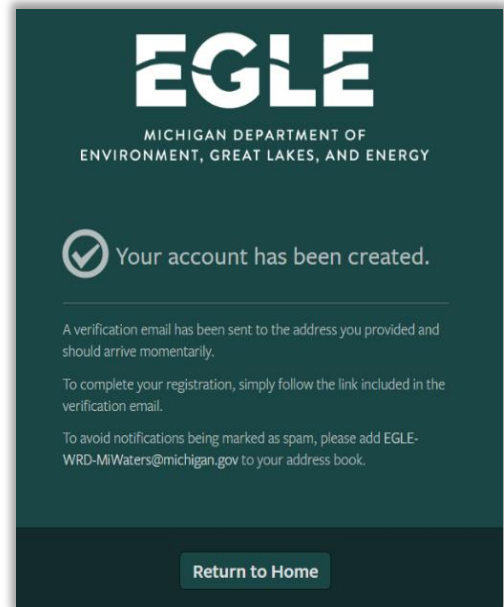

Figure 5-1 – Account Created
Step 3: Click **Create Account** – The pop-up window (Figure 5-1) will state your account has been created.